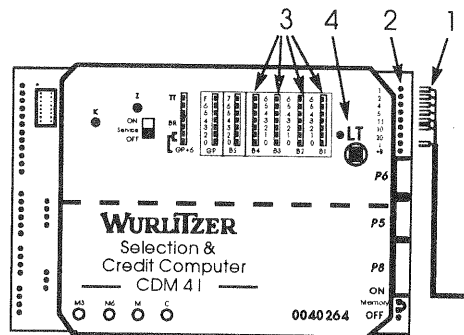
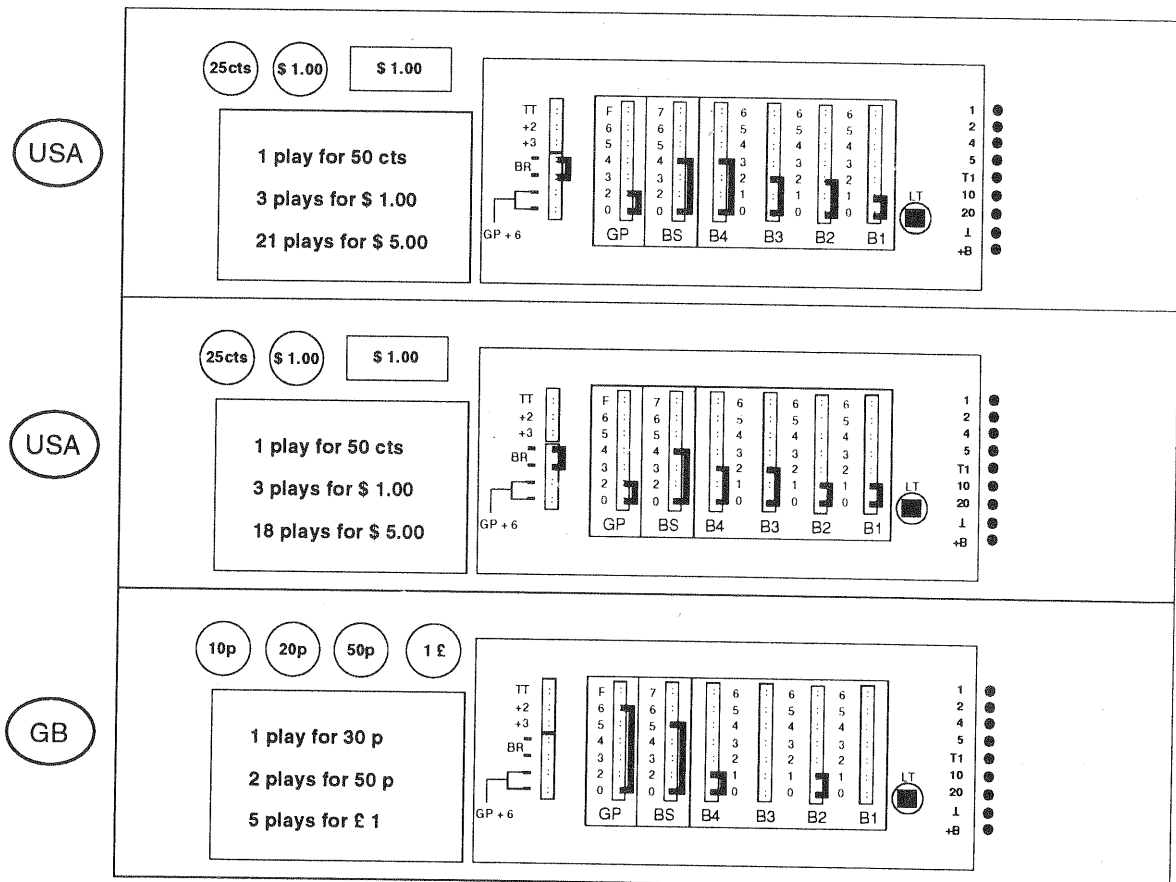
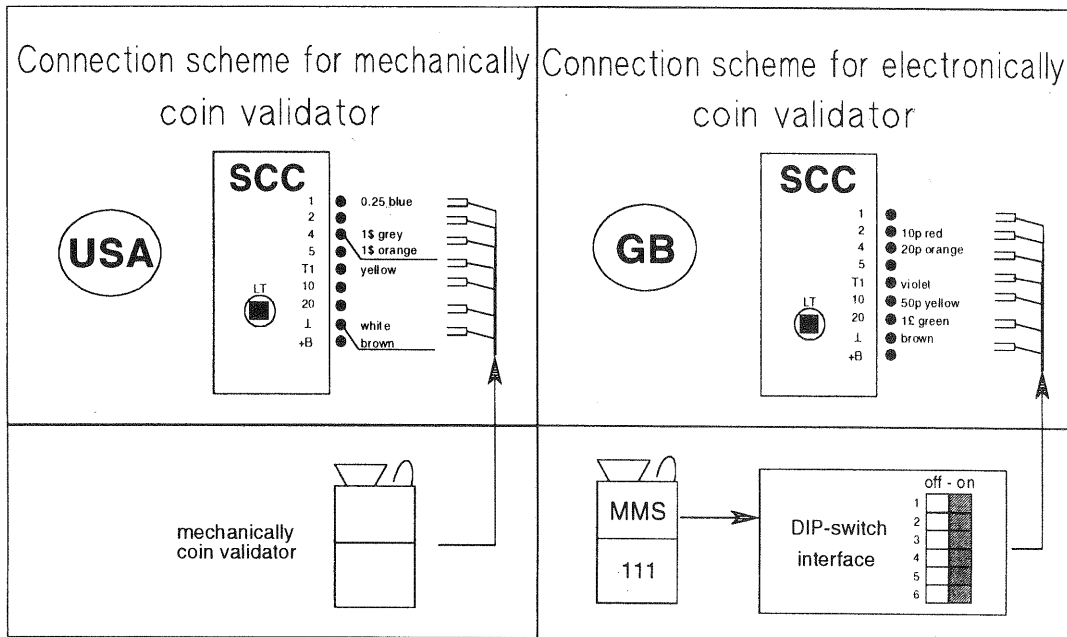

Fig. 7
Fig.8
Fig.9
- Coin output plugs (Fig. 7, Pos. 1) should be set as shown in Fig. 9 or on an separate attached instruction by connecting to the pin row (Fig. 7, Pos. 2) on the SCC unit. Pay attention to wiring colours.
- Set the attached jumpers in B1 to B4, GP, BS (Fig. 7, Pos. 3) according to Fig. 8.
- Press "LT" button (Fig. 7, Pos. 4) to accept the new bonus setting.